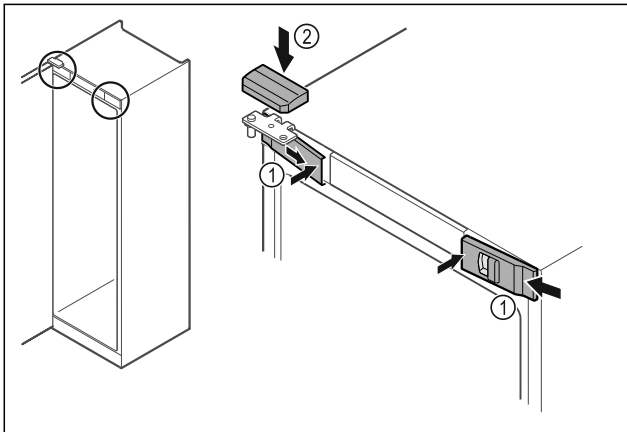

Fig. 50
- ▶ Hook in the front covers Fig. 50 (1) on the side and snap them into place on the inside.
- ▶ Snap on the top cover Fig. 50 (2) from above.